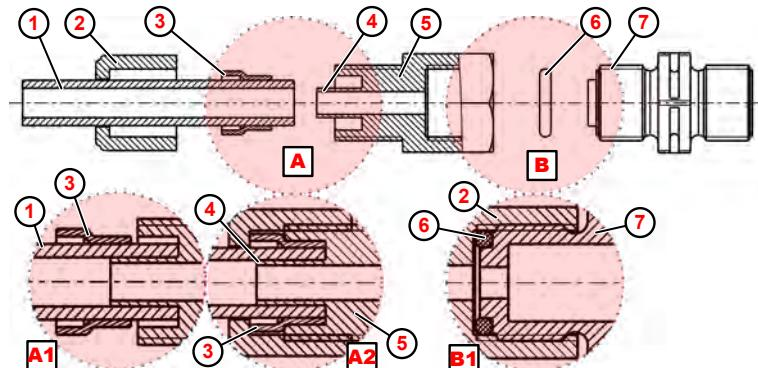

Fig. 7: Pipe and hose connection with integrated support sleeve
1. Place the o-ring ( Fig. 7 , ⑥ ) in the groove of the suction or pressure valve ⑦ .
2. Tighten the screw connection ⑤ (for details, see B1 ).
3. Cut off the hose with a straight cut ① .
4. Slide the union nut ② over the hose ① .
5. Slide the clamping ring ③ over the hose ① .
6. Slide the hose ① over the support sleeve ④ until it engages (for details, see A1 ).
7. Tighten the screw connection ⑤ (for details, see A2 ).